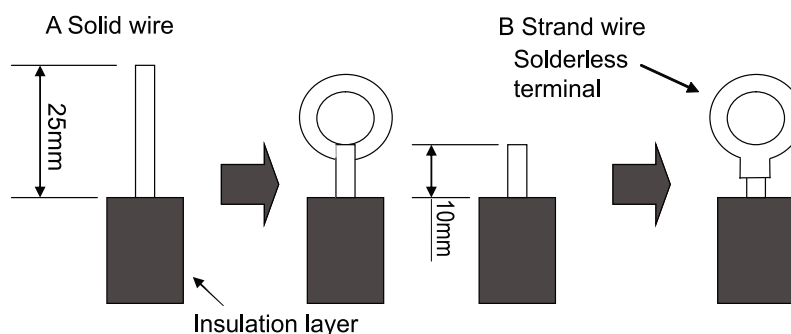

Fig.36
#### (1). For solid core wiring (Fig.36)
## (2). For strand wiring (Fig.36)